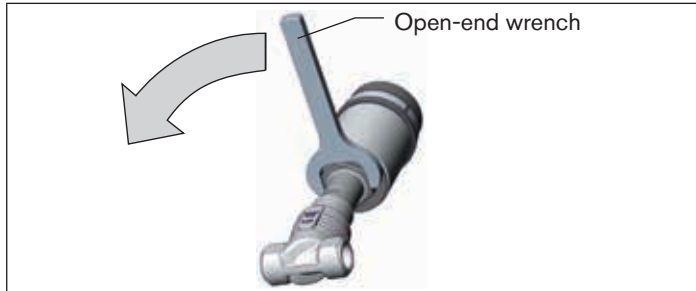

Fig. 7: Rotating with open-end wrench
- ▶ Rotate the actuator module **in the specified direction only** (see "Fig. 7")!